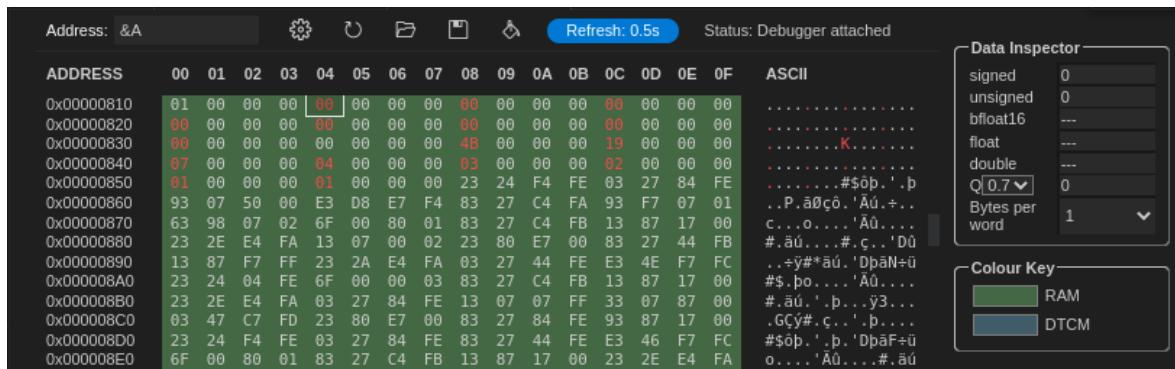

Figure 63. Execution stopped at the end of the program
- Remove all breakpoints, continue execution and pause it after several seconds – at which point the program will have finished executing. Again, analyse the values stored in the A and B arrays. As shown in Figure 63, vector B holds the values from the original vector A sorted from largest to smallest and vector A holds all zeroes (you can see this both at the variables list on the left and at the memory console on the right).